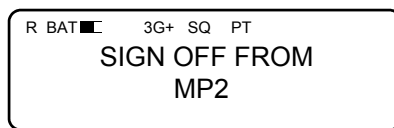

Figure 3-47. Link Termination Pop-up Message
- l. If the initiator of a net call terminates the link, the link for all radios connected in the link will terminate. The **Terminating Screen** will be displayed momentarily on all radios that were linked in the net. If any non-initiating radio in the net link decides to terminate its link, Step i and Step j apply. All radios still active in the link will receive a pop-up message indicating that the radio has signed off. See Figure 3-47.